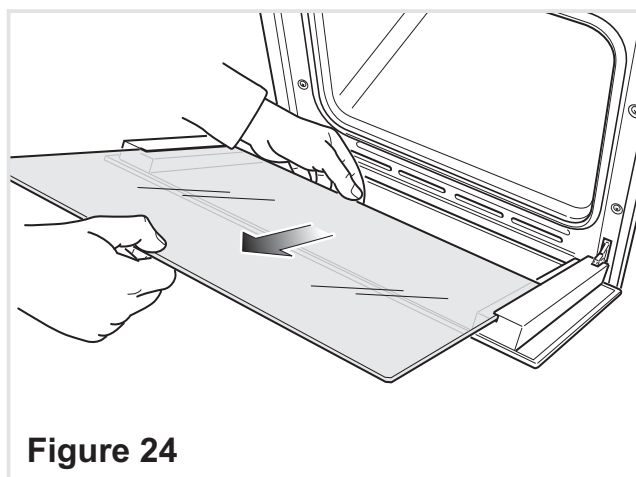

Figure 24
- Gently pull out the inner pane of glass (fig. 24).